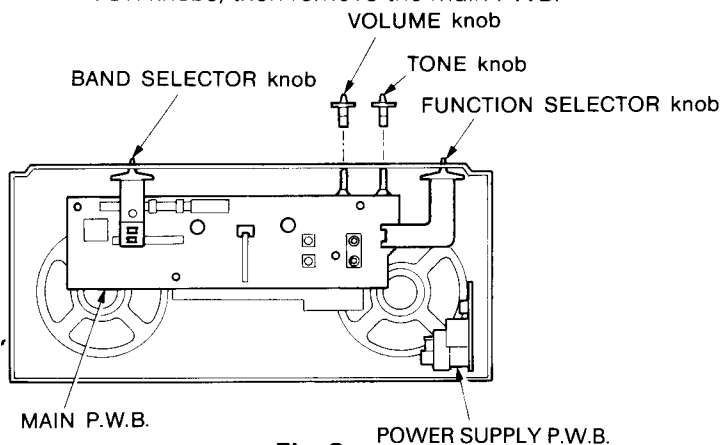

Fig. 3
3. Removing main P.W.B. (Fig. 3)
4. Removing power supply P.W.B. (Fig. 3)